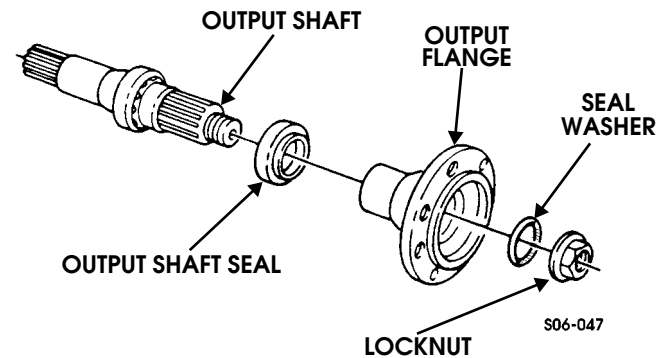

Figure 9-59: Output Shaft Assembly Breakdown
4. Remove locknut, seal washer, output flange and output shaft seal from output shaft. Discard seal washer, output shaft seal, and locknut (Figure 9-59).